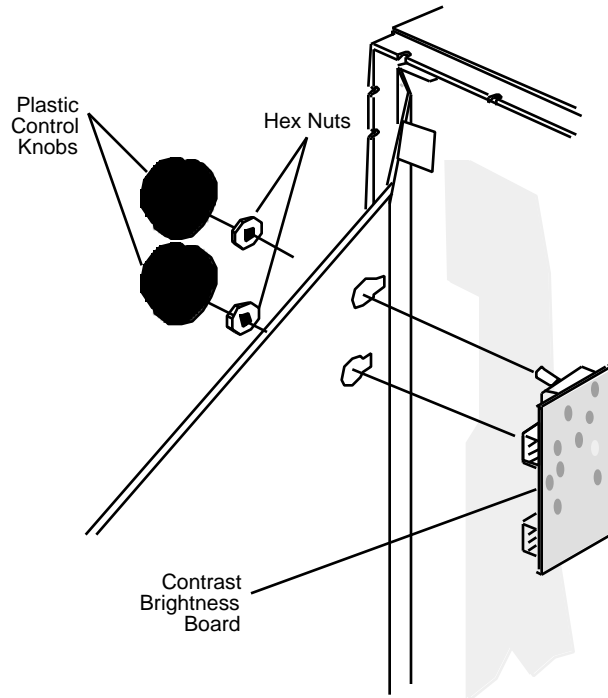

FIGURE 9
5. Pull off the two plastic control knobs (**Figure 9**) . Keep the knobs to install them on the replacement board.
6. Using an adjustable wrench, loosen and remove the two hex nuts from the two adjustment knobs, and remove the contrast brightness board (**Figure 9**) .
1. Replace the contrast brightness board (**Figure 9**) **on the chassis**, and install the two hex nuts. Tighten the nuts with an adjustable wrench.
2. Replace the two control knobs (**Figure 9**) .